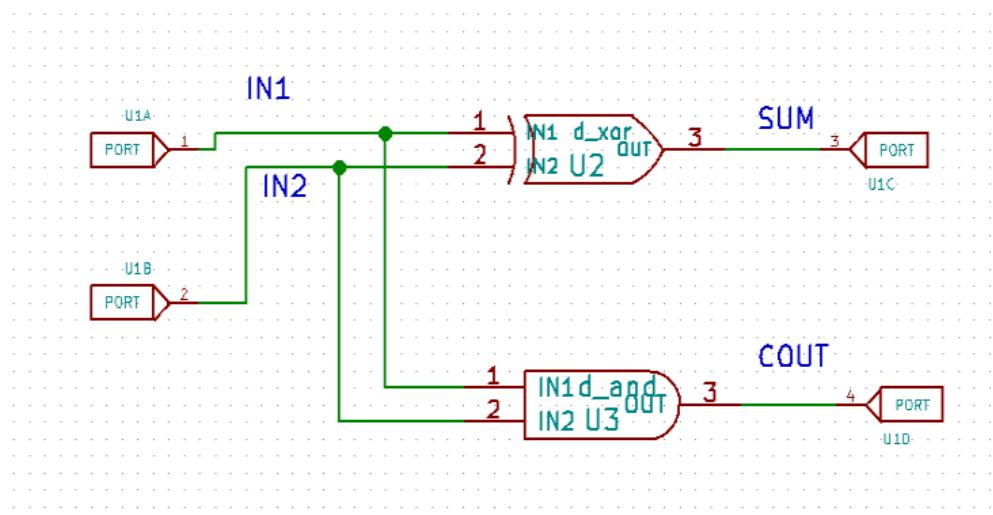
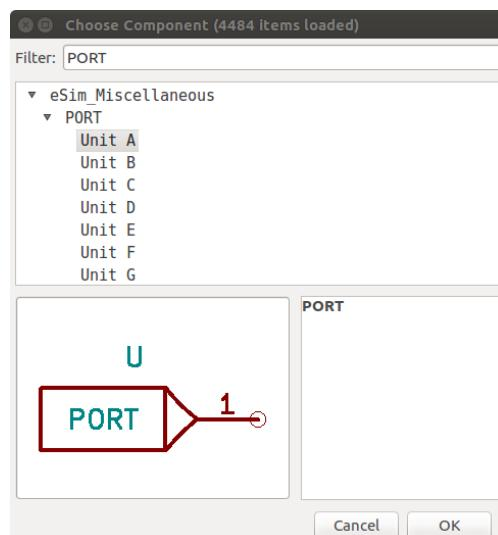

Figure 8.4: Half-Adder Subcircuit
Figure 8.5: Selection of PORT component
the number of input and output pin. The circuit will look like Fig. 8.4 after adding PORT to it. The PORT component can be found in the eSim_Miscellaneous library as shown in Fig. 8.5. Select a different port for each node (input or output), the PORT has 26 such components named alphabetically as Unit A, Unit B to Unit Z, meaning you can create a subcircuit up-to 26 pins(input, output combined).
1. A **.sub** file is nothing but textual representation that is passed to the simulator which essentially informs the simulator about the nodes, and behavior of the subcircuit block. Remember the Fig. 8.4 circuit? It will be saved in a **.sub** file once we complete this process!